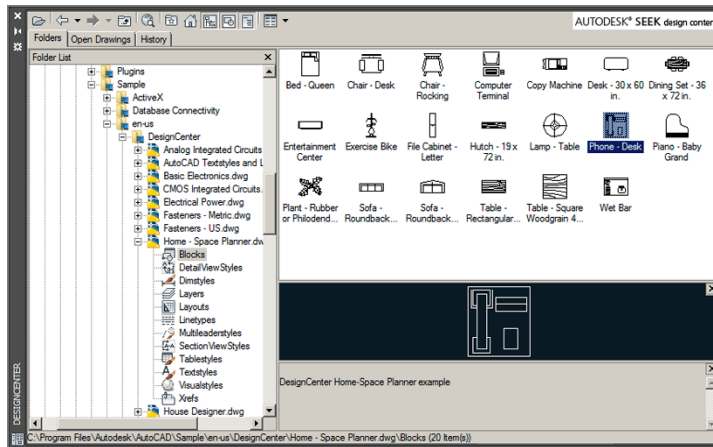

FIGURE 9.20 Inserting content from Autodesk DesignCenter into a drawing
10. Type ADC and press Enter to launch Autodesk's DesignCenter, an older interface for accessing global blocks. Navigate to the folder shown at the bottom of Figure 9.20 and expand the Home – Space Planner .dwg sample file. Select the Blocks node in the folder tree to display this drawing's block files. Drag and drop the Phone –Desk global block from this drawing into the current drawing and then move it onto the Receptionist's desk.